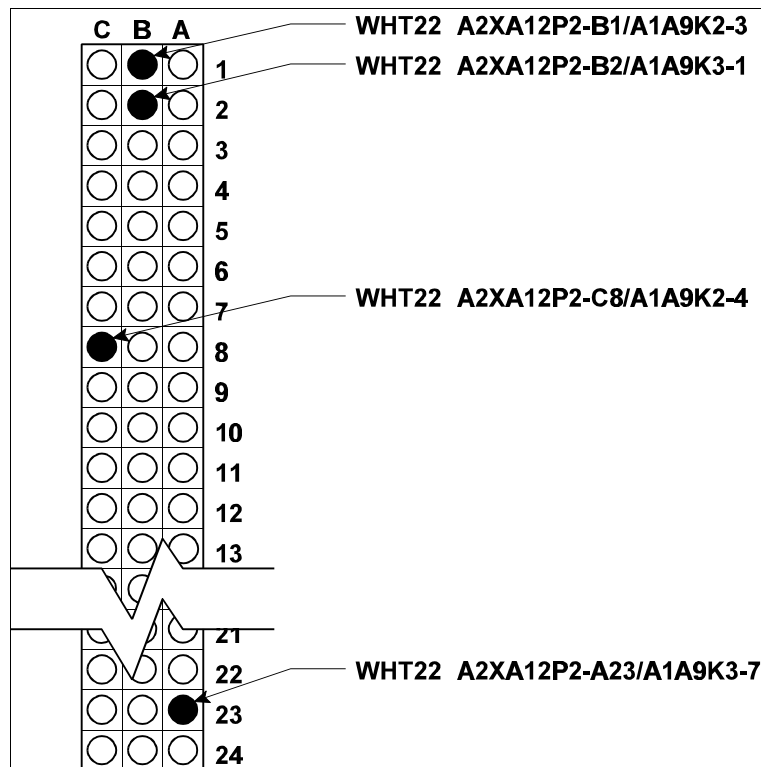

Figure 9 2A1A2XA12P2 Connections
23. Route the four 22-gauge white wires to the VME rack connector 2A1A2XA12P2, and insert them as illustrated in figure 9.